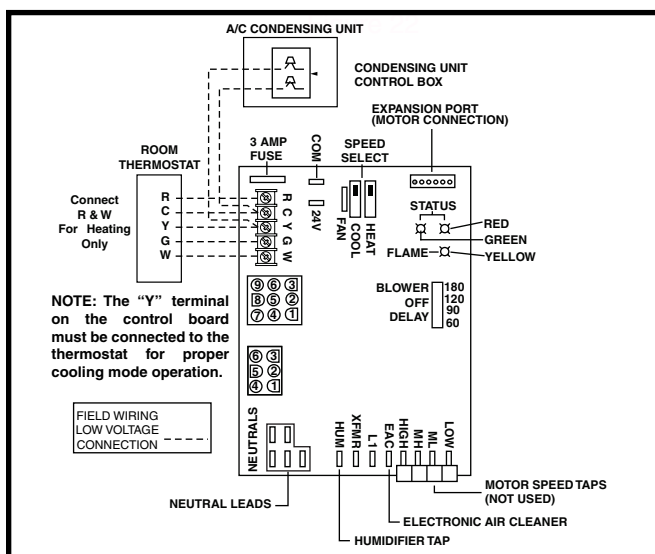

Figure 22. Low Voltage Field, Four-wire Heating/Cooling Applications
- The thermostat must be installed according to the instructions supplied by the thermostat manufacturer. Low voltage connections (24 VAC) from the thermostat are wired to the terminal strip on the integrated control in the furnace. Figure 22 \(page 24\) contains the proper connections for heating only (two-wire) and heating/cooling (four-wire) applications. Recommended minimum wire gauge for thermostat wiring is shown in Table 5, \(page 24\).
The operating sequences for the heating, cooling, and fan modes are described below. Refer to the field and furnace wiring diagrams: Figure 22 \(page 24\) and \(Figure 27 \(page 33\)\).